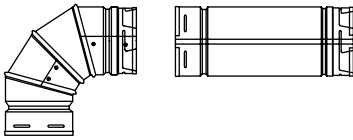

Figure 20
3. 90° Elbows. Figure 20. The installer should apply pressure to the section at the points indicated by the arrows. This will prevent the adjacent sections of the elbow from turning, as the next pipe or fitting is twist-locked on. This is important, because once these sections start rotating, the elbow does no longer have a 90° angle.